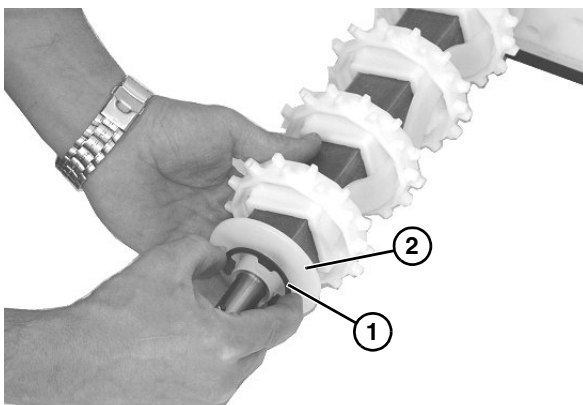

Figure 45
10. Remove retaining clip (**Figure 45, item 1**) and flanged puck (**Figure 45, item 2**) from drive spindle.